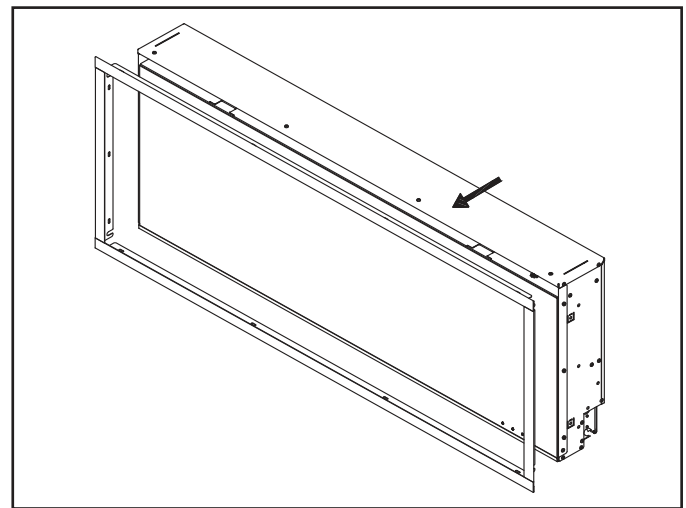

Figure 4 Remove Trim
2. Pull Trim off from the front of the appliance. See Figure 4.